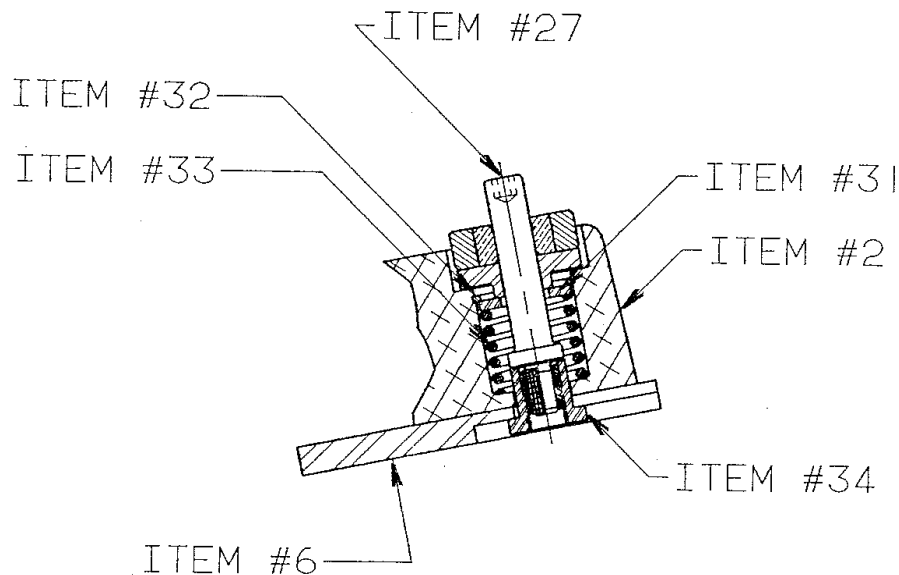

Figure 601
- I. Place one Washer (Item #31) over each Spring (Item #33), place one Snap Ring (Item #32) over each washer, compress the spring, and position the snap ring into the snap ring groove in the Cylinder (Item #2). See Figure 601.
- K. Slide each of the four Adjuster Studs (Item #27) through the retraction housing and thread the stud into the Retraction Base Assembly (Item #34) as shown in Figure 601. Torque to 40-50 in.-lbs.